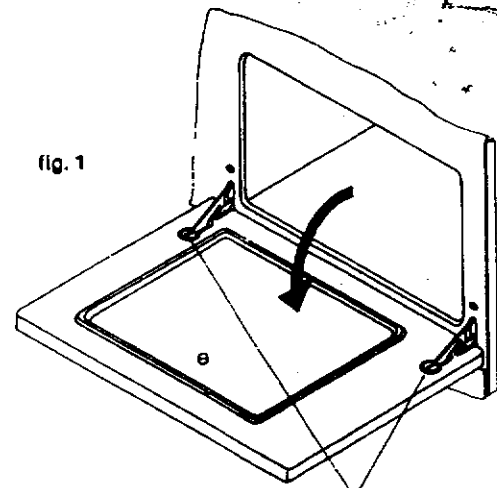

fig. 1
1. Open the oven door with slight pressure downwards until stop (Fig. 1).
2. Turn the two fixing plates (left and right) shown on Fig. 1 with a coin to the right in the marked taking off position (Fig. 1b).
3. Open the door downwards with slight pressure until stop (Fig. 1).